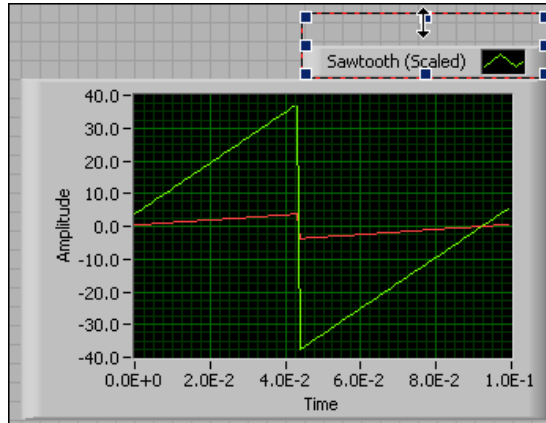

Figure 1.25
- When a double-headed arrow appears, shown in Figure 1.25, click and drag the border of the plot legend until the second plot name appears.